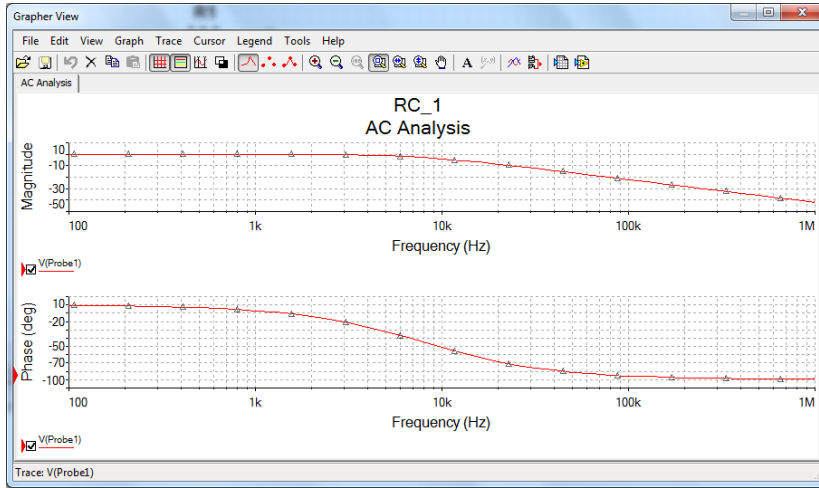
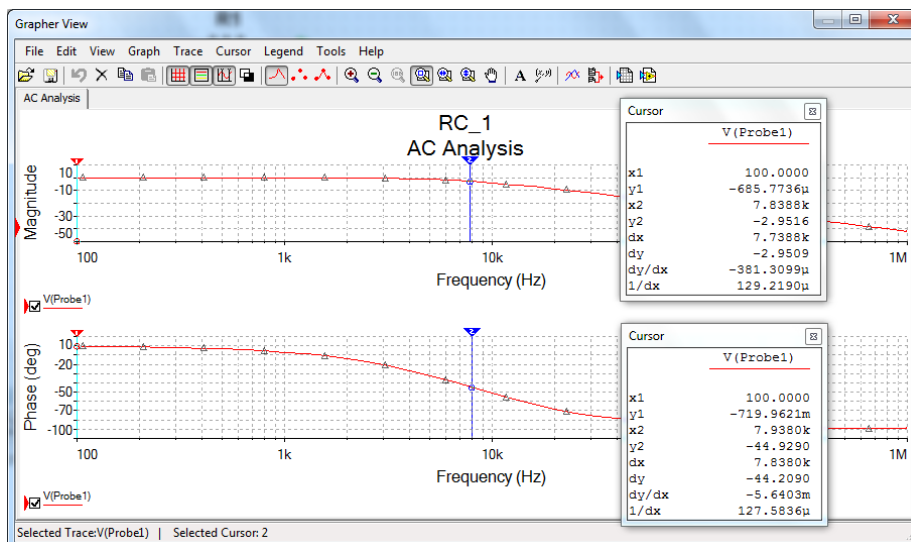

Figure 10: "Grapher" View – Bode Plot
Figure 11: Using the cursors
- Click **Simulate** (If you have closed the dialog box, click the Grapher button  from Multisim toolbar). The analysis runs and a "Grapher View" window opens automatically to show a frequency and phase response or Bode Plot, figure 10. Use the appropriate buttons  to change the black background to white and to turn on grid lines for both graphs.
In order to read accurate 'X' and 'Y' values from a trace, it is necessary to use the **cursors**. By placing a cursor on a trace, you can move it along the trace and read off the 'X' and 'Y' values at any point. Explore the menu items in the Grapher Window, especially **Cursor**. From the initial display (figure 10) let's add cursors as shown in Figure 11 below.